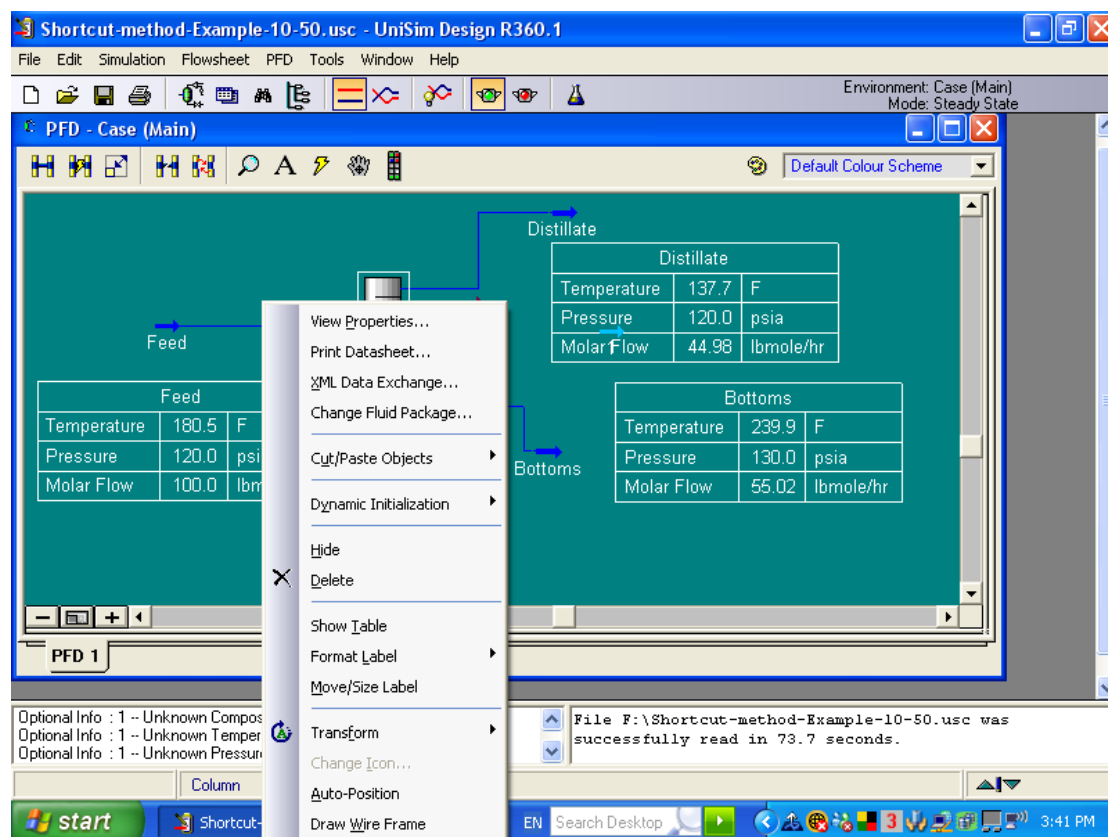

Figure K-22. Snapshot of PFD window showing the **Print Datasheet** menu.
Step 22. A summary of the printout of the data sheet can be obtained by right clicking on the column icon in Figure K-22 to display a menu with **Print Datasheet** as shown in Figure K-22. Then click on the **Print Datasheet** menu.